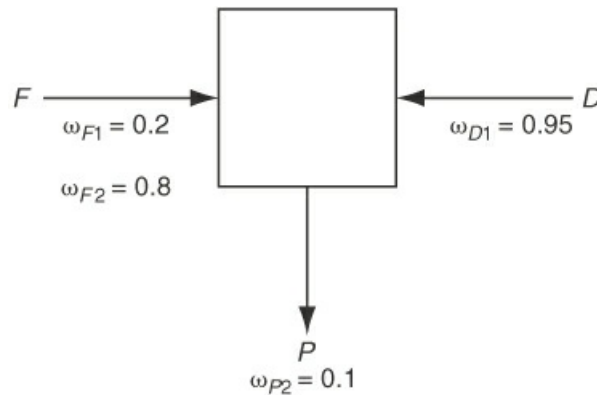

Figure SAT3.3 P3
3. How many values of the concentrations and flow rates in the process shown in Figure SAT3.3 P3 are unknown? List them. The streams contain two components, 1 and 2.